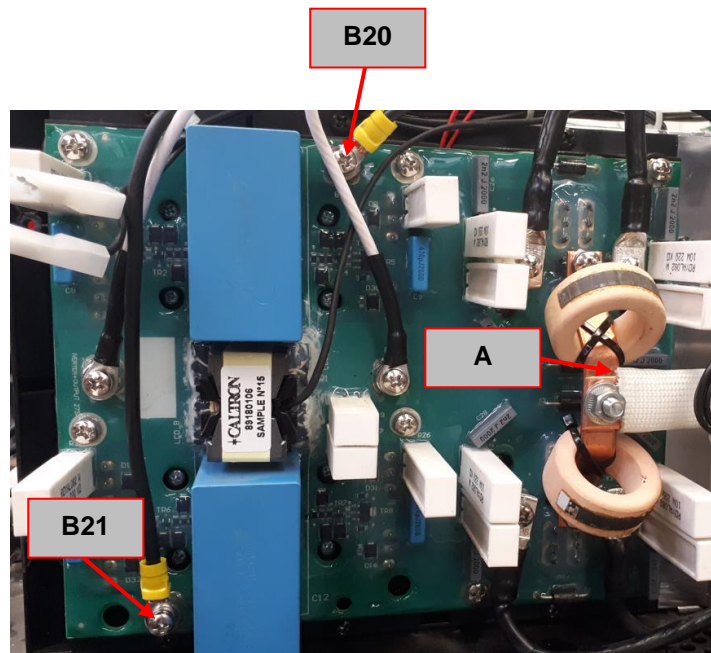

Figure 13 – Inverter Board location and Test Points
5. Using the multimeter in VDC mode perform the tests as indicated in **Test Table 8**. See **Figure 13** for correct test points location.